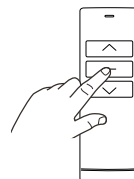

Fig. 23
9. Setting the middle position Move the roller shutter to the desired position and stop it. Activate the **learn button** on the "Master Transmitter" **2 x** (Fig. 22) and press the **STOP button** (Fig. 23). The motor confirms this input by briefly turning once in one direction. The middle position has been successfully learned.